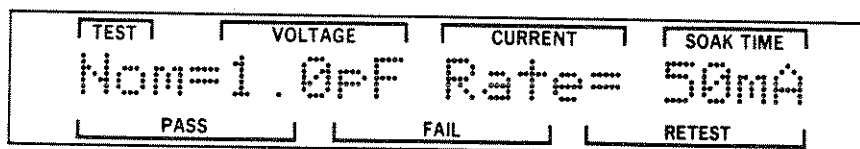

Figure 3-73. Nominal Capacitance and Charge Rate Screen
- STEP 2. Select the Nominal Capacitance and Charge Rate screen by pressing the UP or DOWN pushbuttons until the screen is displayed. Refer to Figure 3-73.